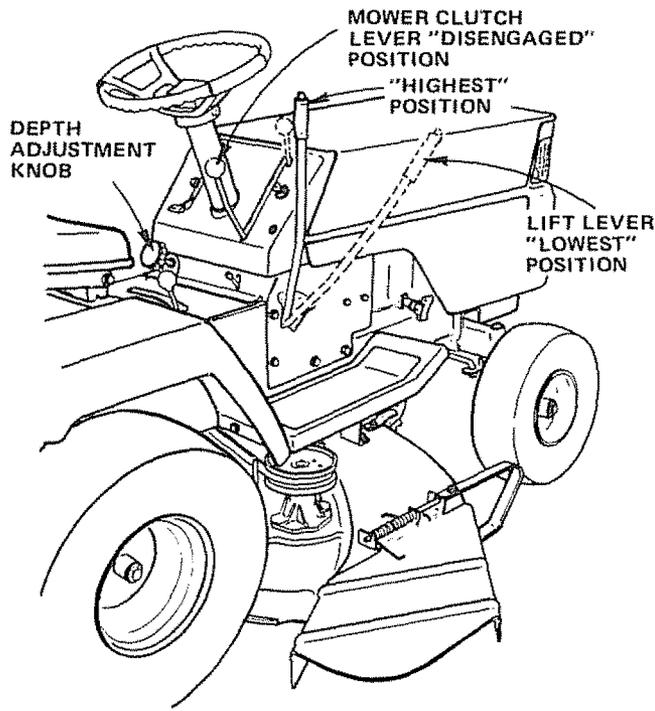

FIGURE 37
1. Place Mower Blade Clutch Lever in "DISENGAGED" position (Fig. 37).
2. Turn Depth Adjustment Knob to lowest position. Move Mower Lift Lever (Fig. 37) forward to lower Mower to its lowest position.